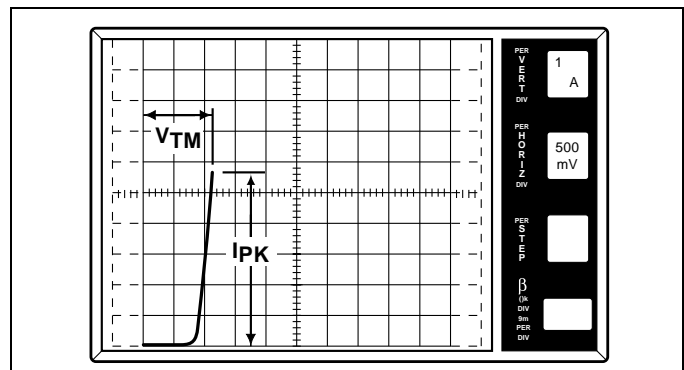

Figure 19.18  $V_{TM}$  (Forward) is equal to 1.1 volts at  $I_{pk}$  equal to 5.6 amps
2. Increase *Variable Collector Supply Voltage* until breakover occurs. (See Figure 19.18.) The voltage at which current begins to flow and the voltage does not increase is the  $V_{BO}$  value.
4. To measure  $V_{TM}$ , follow along horizontal scale to the point where the trace crosses the  $I_{T(peak)}$  value. This horizontal distance is the  $V_{TM}$  value. (See Figure 19.18.)